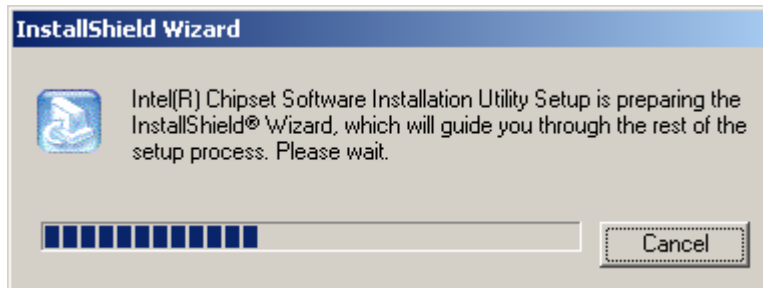

Figure 6-9: InstallShield Wizard Preparation Screen
Step 2: The Chipset Software Installation Utility prepares the InstallShield Wizard (Figure 6-9).